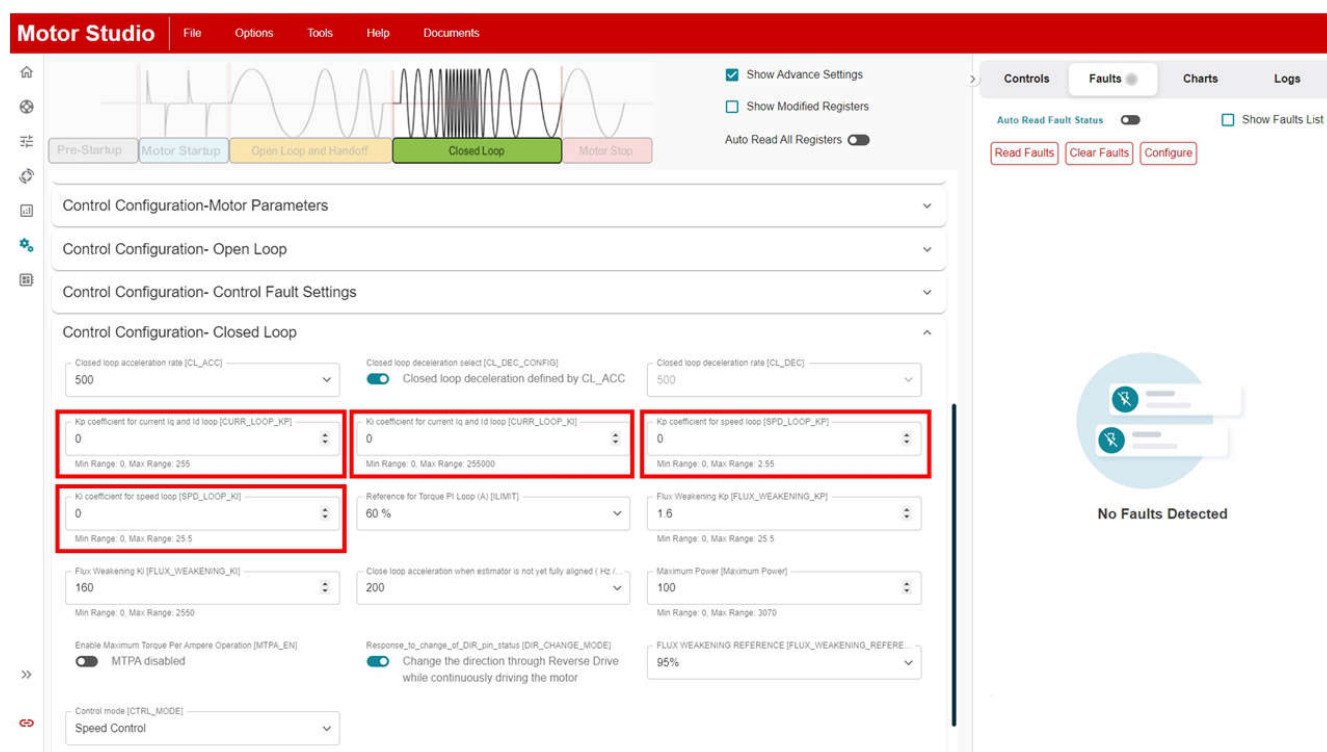

Figure 7-5. HW_LOCK_LIMIT
Step 1: Using the fields circled in Figure 7-5, set SPD_LOOP_KP, SPD_LOOP_KI, CURR_LOOP_KP, and CURR_LOOP_KI to zero. This enables the MCF8329A to automatically calculate the speed loop and current loop PI controller gains.